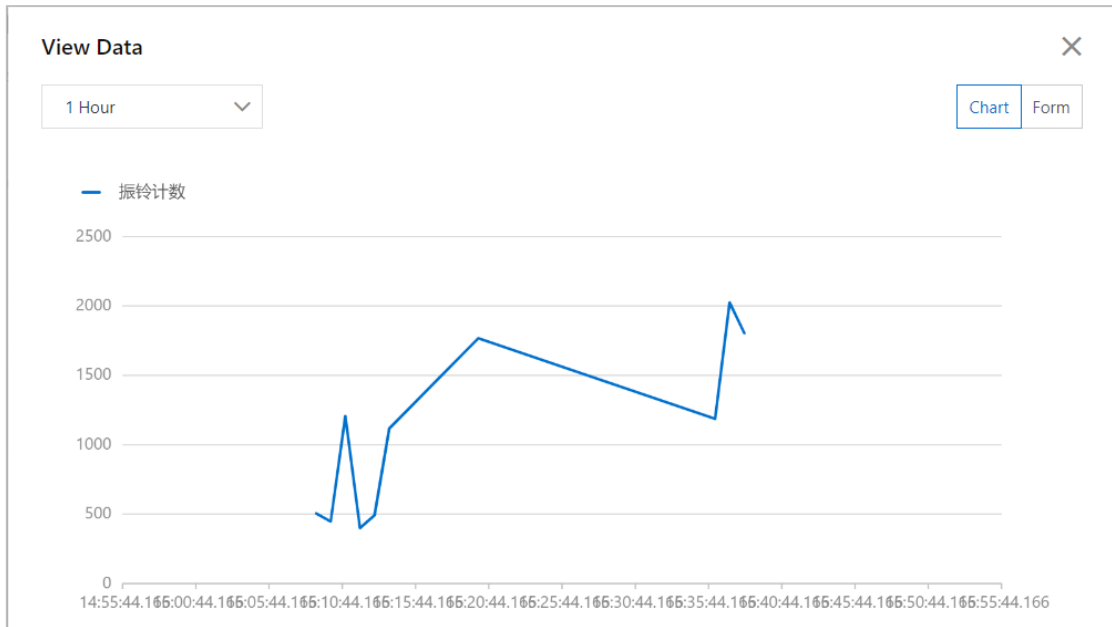

Fig. 6-26 Qingcheng Alibaba Cloud
- (4) There is a “View Data” button on the upper right corner of each parameter block. Click on the button to view the parameter history chart or form. (Figure 6-26)